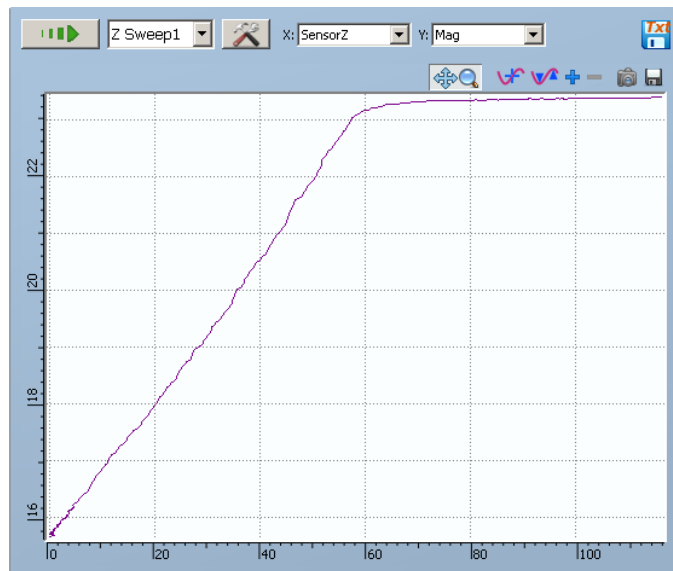

Figure 3.6.2.4 Mag(Z) dependence during the landing
After landing, the **Curves View** window displays the so-called "landing curve" – the Mag (Z) dependence (fig. 3.6.2.4) and the “**landing completed**” message appears in the information box.